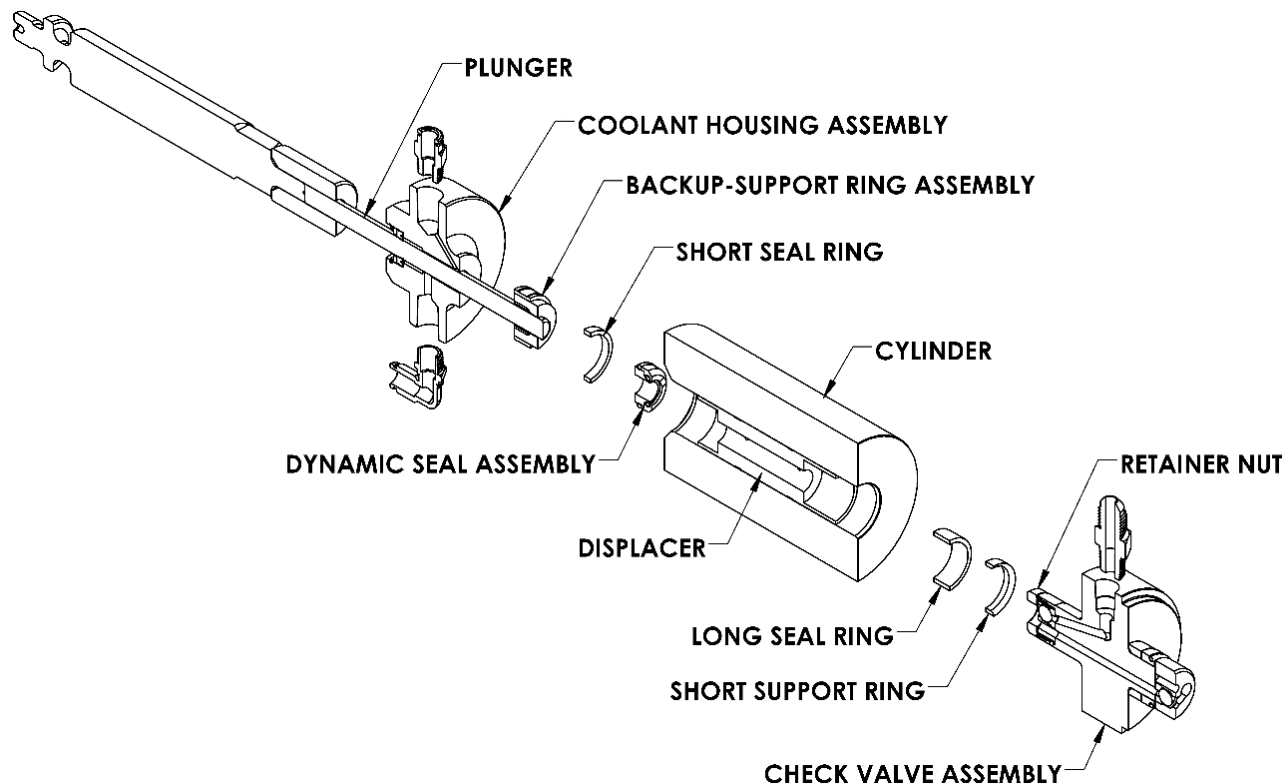
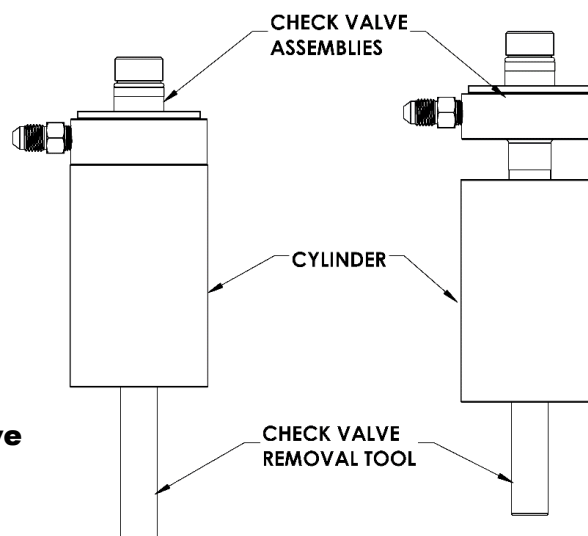

Figure 7 High-Pressure Wet End Assembly Components
Figure 9 Using the Check Valve Assembly Removal Tool
2. Insert check valve removal tool (see **Figure 9**) through backup-support ring assembly (see **Figure 7**) of the first cylinder until it contacts the check valve retainer nut inside the cylinder.